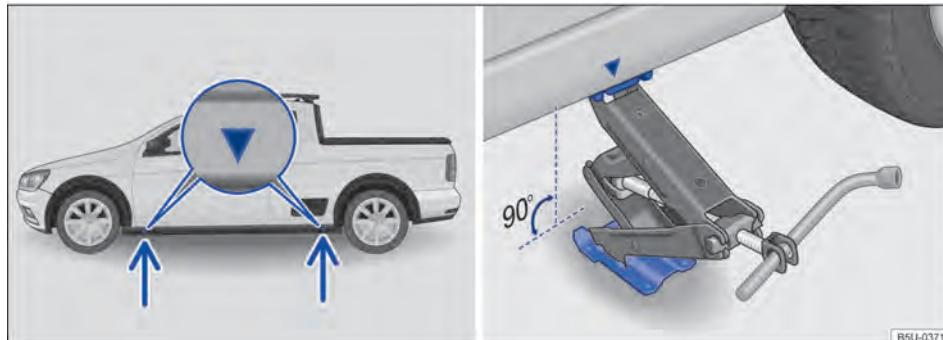

Fig. 205 Jacking points and vehicle jack at the rear left-hand side of the vehicle.
The jack may be applied only at the jacking points shown (markings on the body) → **Fig. 205**. Always use the jacking point closest to the wheel you are working on → .
- Find the jacking point under the vehicle → **Fig. 205** closest to the wheel that is being changed.
- Ensure that the entire surface of the foot of the jack is resting securely on the ground and that the foot of the vehicle jack is positioned precisely below the jacking point → **Fig. 205**.
- Align the jack and, at the same time, raise the vehicle jack claw until it engages with the cross piece under the vehicle → **Fig. 205**.
- Fit the vehicle jack only at the points described. The vehicle jack claw must fit securely into the side member rib → Fig. 205.